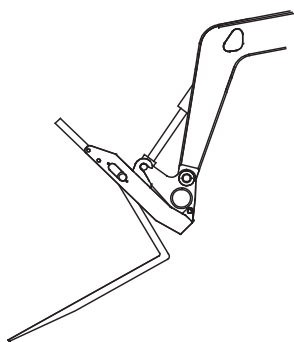

Figure 2-15 Fork Pivoting on the Bar
3. Tilt the attachment forward until the fork pivots on the bar, and no longer resting on the carriage's bottom rail (see Figure 2-15). This prevents binding on the bar, thus aiding its repositioning.